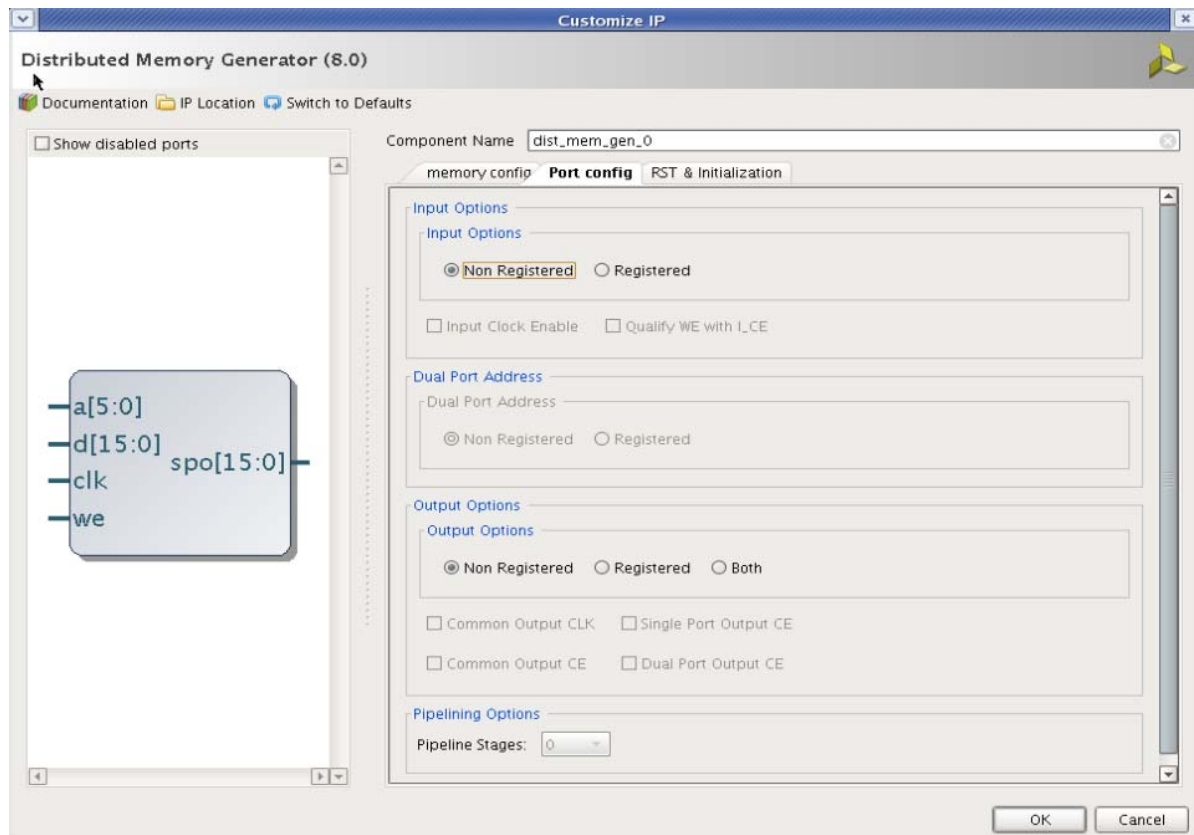

Figure 4-2: Distributed Memory Options Screen
- Input, Dual-Port, and Output Options Screen (Figure 4-2)